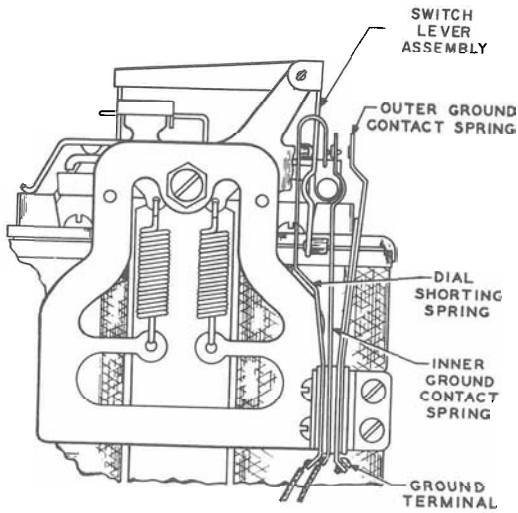

Fig. 58—D-96590 Dial Shorting Relay, 3-Spring (Guard Cut Away)
6.109 Refer to Fig. 58 and 59 for spring arrangements.
**6.112** With coin trigger and operating arm in normal unoperated positions, dial shorting contact springs (Fig. 58 and 59) should have perceptible follow. With coin trigger tripped, they should be open; judge visually.